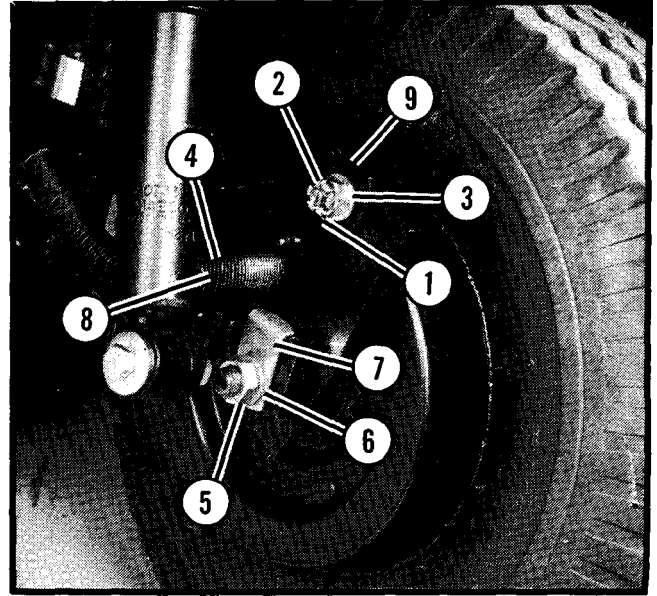

Figure 1.
2. Remove the cotter pins, castle nuts and washers attaching the brake anchor link to the front fork and brake arm. Pull the link straight off the studs, being careful not to lose the brake link bushings located in the holes at each end of the brake anchor link. See Figure 1.
4. Loosen the axle nuts and lower the entire hub, brake and axle assembly from the front fork. See Figure 1.